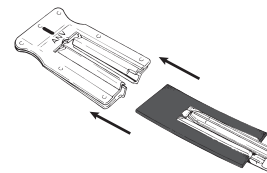

Figure 4
16. Remove and discard the plastic sheath leaving the foam spacer between the stapler jaws (See Figure 4).